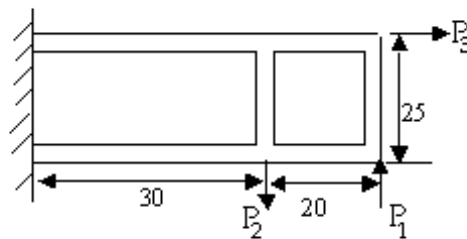

Figure 2b
- (b) Find the shear flow in each web of the beam shown in the figure 2b. Plot